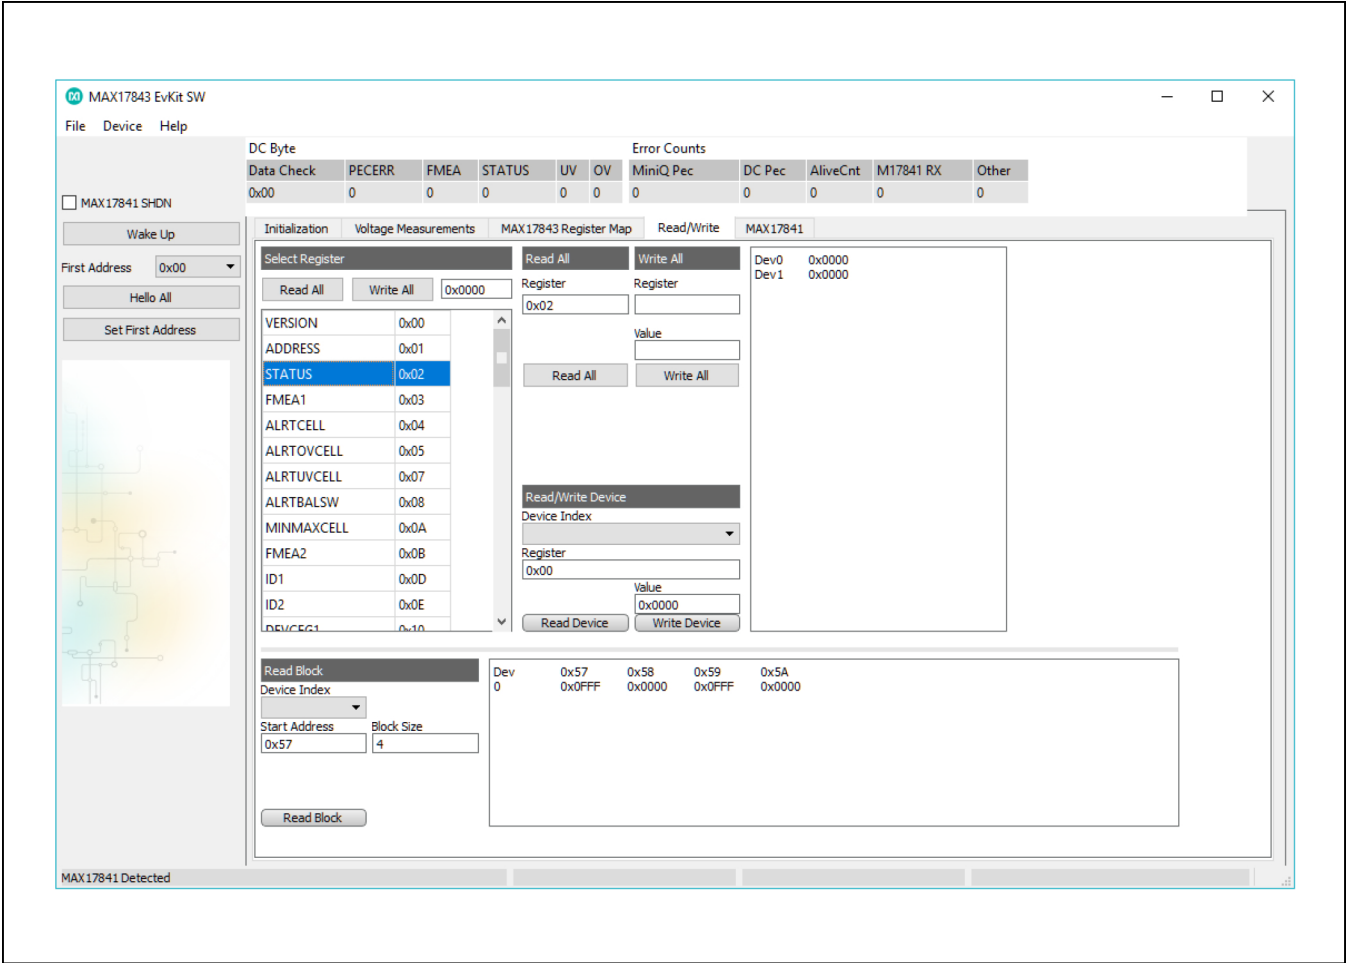

Figure 6. MAX17843 Evaluation Kit Software (Read/Write Tab—Select Register from List and Write All)
- 2) Enter the hex value (####) into the edit box directly to the right of the **Write All** button (Figure 6).
- 3) Click the **Write All** button (Figure 6).
The second option to perform a **Write All** uses the **Read All and Write All** section (Figure 6) of the **Read/Write** tab.
A specific device in the daisy-chain can be read by using the **Read/Write Device** section within the **Read/Write** tab shown in Figure 6. To perform a read of a specific register of a single device:
The **Read/Write** tab can also be used to read the active register of all devices in the daisy-chain. There are two options for performing a **Read All**. The first option is performed by clicking the name of the desired register from the complete list of registers (Figure 6).
The second option for performing a **Read All** uses the **Read All and Write All** sections (Figure 6) in the **Read/Write Device** tab.
Finally, a **Read Block** (Figure 6) is used to read multiple consecutive registers within a specified device. To perform a read of a specific set of registers of a single device: